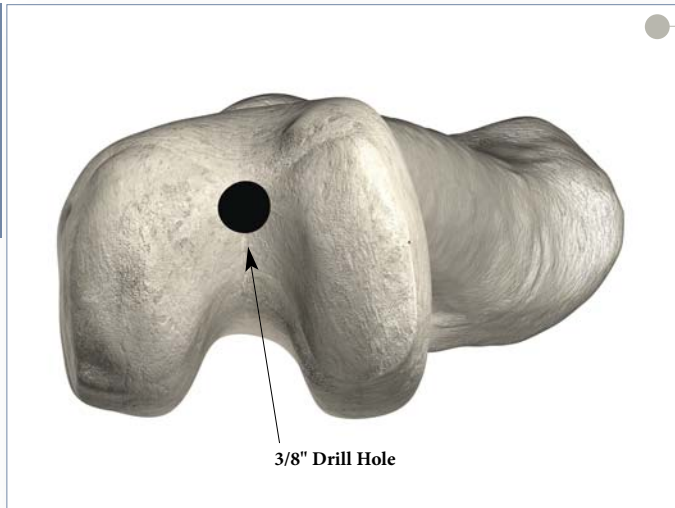

Figure 4
- ▶ The drill hole is located approximately 1cm anterior to the femoral attachment of the posterior cruciate ligament and slightly medial to the mid-line of the distal femur (**Figure 4**).